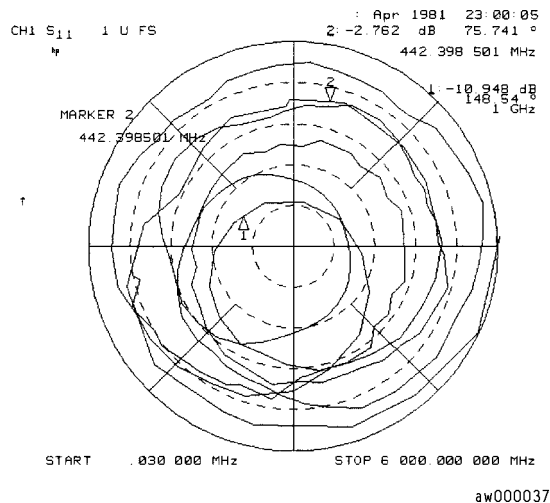

Figure 7-13. Example of a Log Marker in Polar Format
- *LOG MKR* if you want to view the logarithmic magnitude and the phase of the active marker. The magnitude values appear in dB and the phase values appear in degrees, as shown in Figure 7-13.